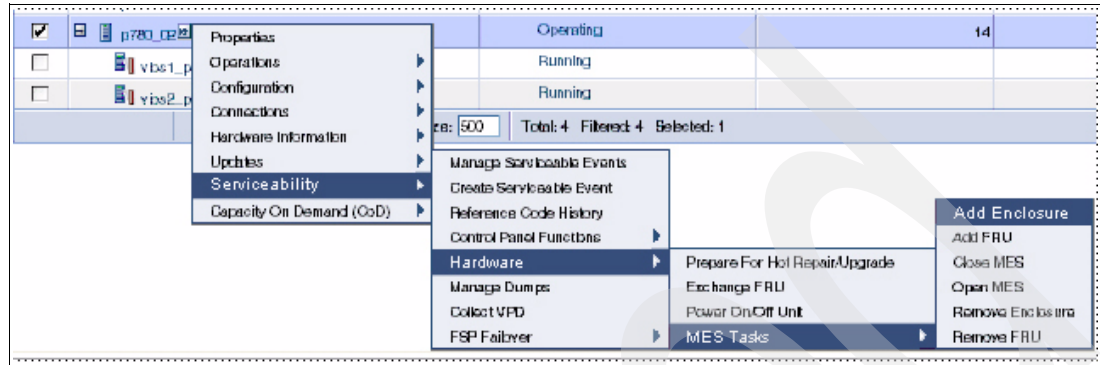

Figure 6-6 Add enclosure
2. Select Add Enclosure by selecting the server → **Serviceability** → **Hardware** → **MES Tasks** → **Add Enclosure** (refer to Figure 6-6).